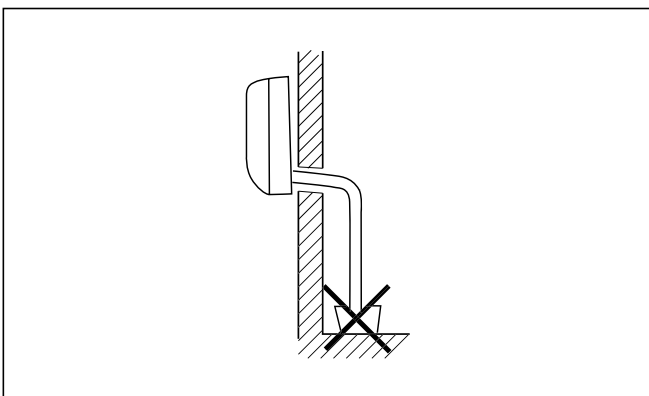

Fig. 9.3 Avoiding submerging the end.
- Avoid installing the condensed water pipe with its free end submerged in water (see Figure 9.3).